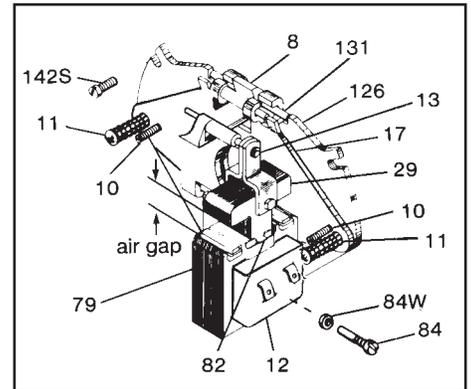

Figure 8
**Note 2:** Both adjustment screws (11), Figure 8, must be turned equal amounts counterclockwise to decrease torque.
#### A. Adjustment for friction disc wear (see Table 2 and Figure 8)
- Refer to Figures 8 and 9. Insert screwdriver between support plate (126) and lever arm (17). Wedge apart and remove as an assembly bearing pin (26), bearing (6), pin (131), solenoid lever (8) connected to solenoid link (13) and plunger (29).